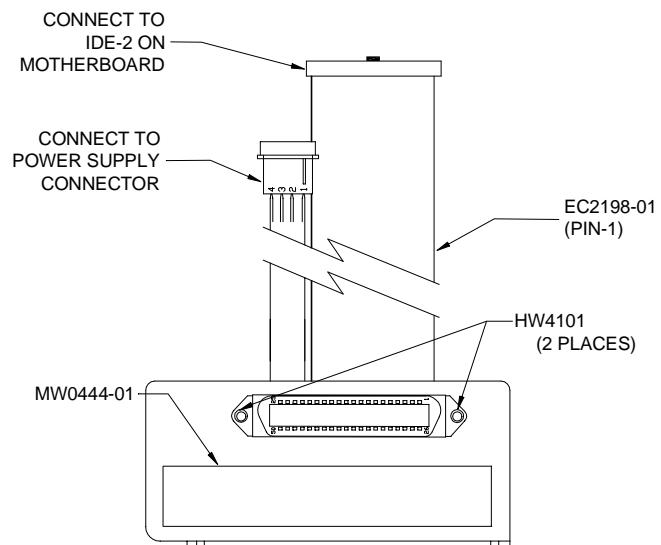

FIGURE 5 - CENTRONICS ASSEMBLY COMPONENTS
20. Attach the 2 x 20-pin IDE centronics ribbon cable (EC2198) to the centronics mounting bracket (MW0444-01). Secure the ribbon cable to the mounting bracket, using the (2) HW4101 screws and (2) HW3050 nuts. See Figure 5.